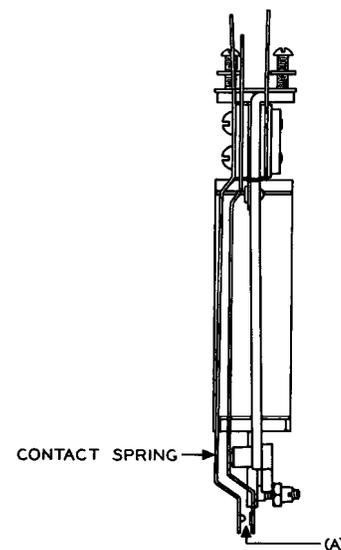

Fig. 11 - Contact Separation
2.16 Contact Separation: Fig. 11(A) - The separation between any pair of contacts that are opened when the relay is operated shall be